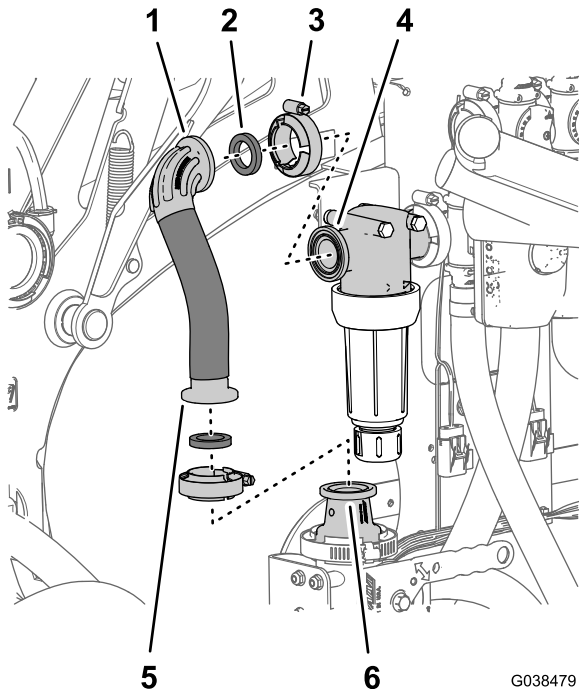

Figure 76
1. Align the straight barbed fitting of the upper supply hose 25 x 22 cm (1 x 8-5/8 inches) and a gasket—25 x 35 mm (1 x 1-3/8 inches) with the flange of the adapter on the educator-shutoff valve (Figure 76).
2. Loosely assemble the hose to the adapter (Figure 76) with a flange clamp—40 to 64 mm (1-9/16 to 2-1/2 inches).
3. Align the 90° flanged elbow of the upper supply hose and the gasket to the flange of the filter head (Figure 76).
4. Secure the 90° flanged elbow to the filter head (Figure 76) with a flange clamp—40 to 64 mm (1-9/16 to 2-1/2 inches).
5. Tighten the flange clamp that secures straight barbed fitting of the upper supply hose to the adapter of the educator-shutoff valve (Figure 76).